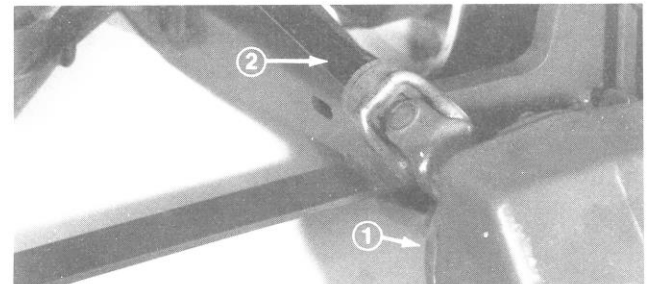
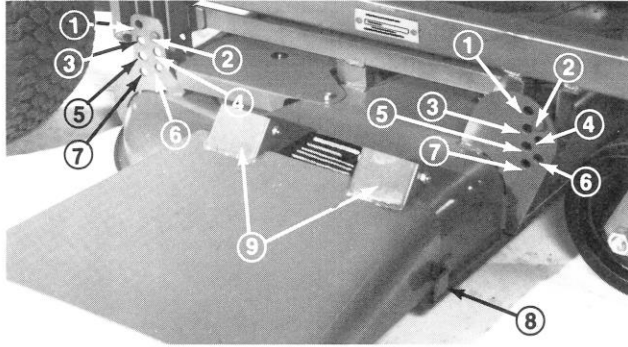

Figure 9
Figure 15
2. Stop engine, remove clevis pins and hairpins from forward and rear height-of-cut brackets (Fig. 15), install cutting unit under frame, align gearcase input shaft with PTO shaft and install shaft (Fig. 9).
4. Install clevis pins through desired height-of-cut bracket holes and frame to secure cutting unit to frame (Fig. 15). Secure all four pins with hairpins.
tions in brackets at each corner of the cutting unit (Fig. 15).
The grass deflector (Fig. 15) is a safety device that diverts grass and other foreign objects being discharged downward. Without deflector mounted in place on the cutting unit and spring loaded hinges holding deflector in down position, the blades could hurl grass and foreign objects out the discharge opening with enough force to cause injury or property damage. If the grass deflector or spring hinges are worn, broken or damaged, repair or replace the affected part(s). Never operate cutting unit without deflector mounted on the cutting unit. Always be sure the deflector chute is in the lowest possible position.